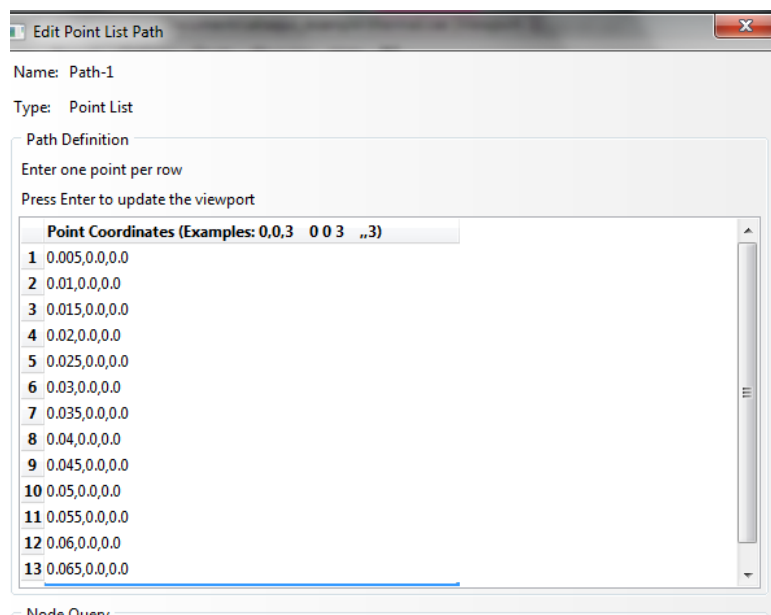

Figure 21
- The plot will only show output at points in the list so add a point every 0.005m along x as in Figure 21